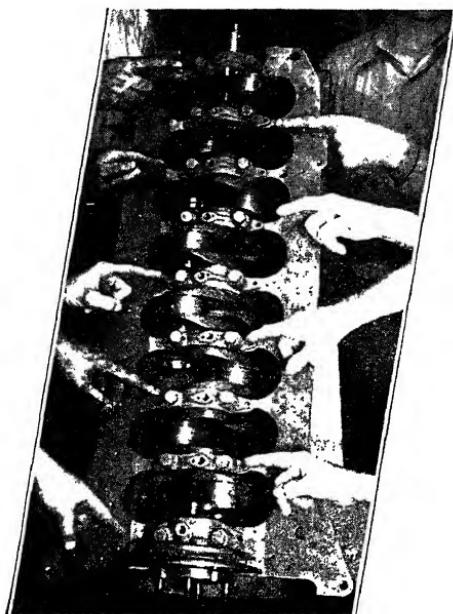

Fig. 4. Nash Nine Main Bearing Crank-shaft for 8-Cylinder Engine
**Counterbalanced Shafts.** All crankshafts are balanced statically and dynamically. In order to offset the strains induced by the explosions of the fuel charges and the reciprocating force developed by the pistons and connecting-rod assemblies, many manufacturers have resorted to the practice of counterbalancing the crankshafts. One of the outstanding jobs so handled is the Hudson Super Six. Fig. 4 illustrates a counterbalanced crankshaft. In some cases the counterbalances are forged integral with the shaft, as shown in this